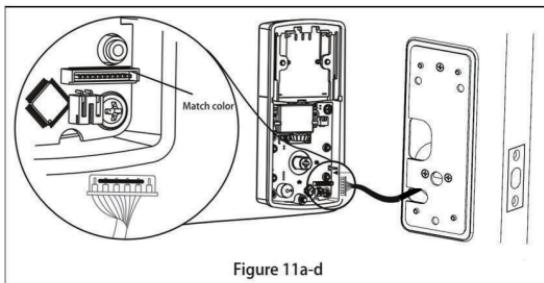

Figure 11a-d
- Use care to attach the Control Wire male plug to the Interior Assembly female socket connector (Figure 11a).